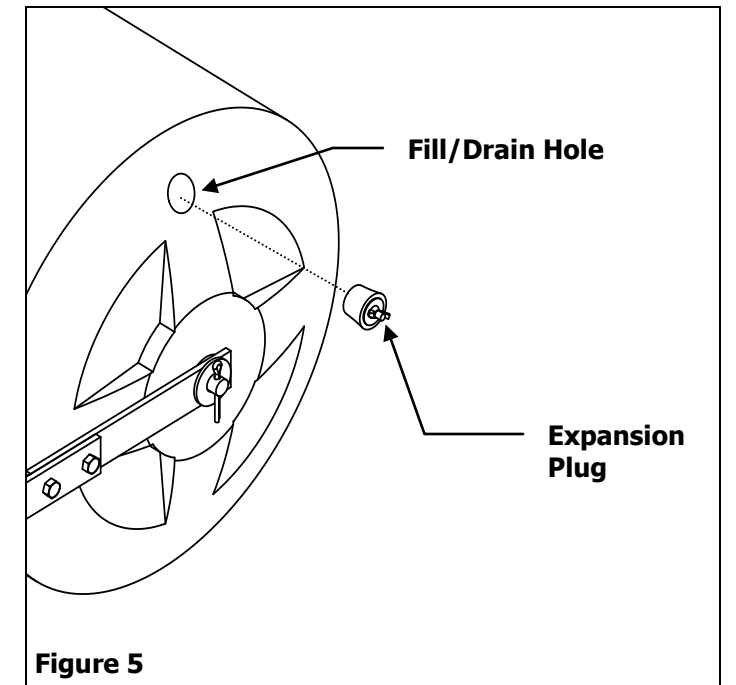

Figure 5
11. Insert an Expansion Plug into the fill/drain hole on each end of the Roller Body. Secure by turning the wing nut on the Expansion Plug. See Figure 5.